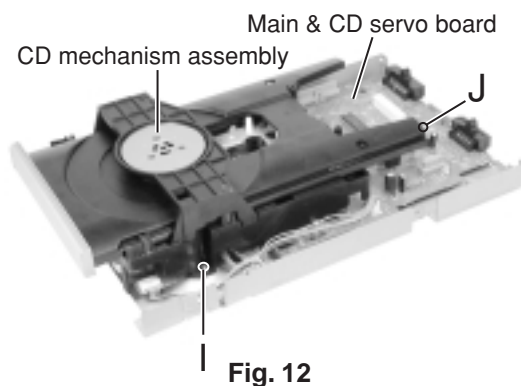

Fig. 12
■ Removing the CD mechanism assembly main & CD servo board (See Fig.12 to 14)